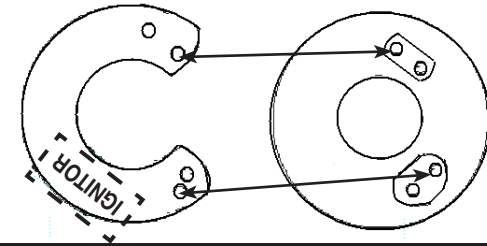

FIGURE 3
- Use figure 3 to mount Ignitor to adapter plate.
- Use figure 3 to install adapter plate on to distributor.